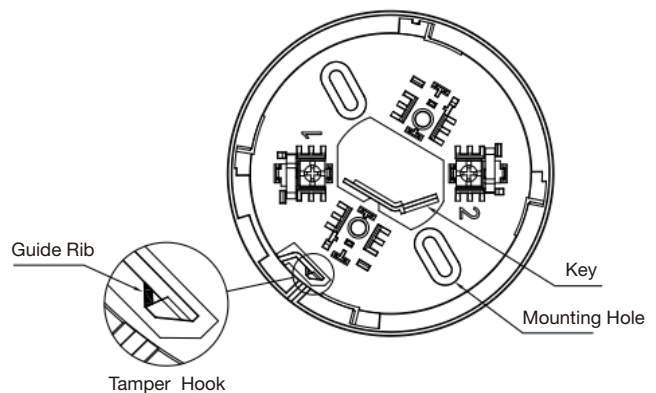

Figure 1: P601 Detector Base
**NOTE:** The tamper device is not enabled on the detector base by default. If the tamper device needs to be enabled, please first remove the guide rib on the tamper hook, remove and keep the key (as shown in Figure 1), for use when removing the detector.